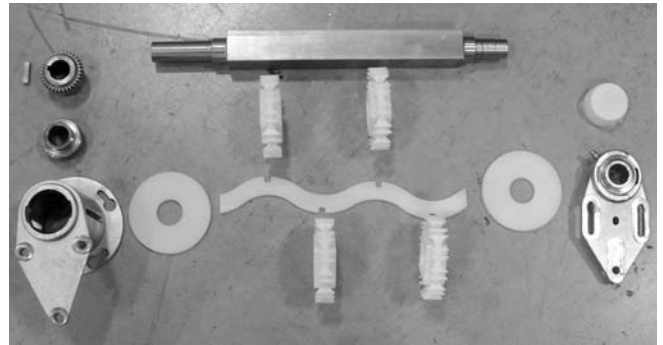

Figure 62
- Replace components, as needed (**Figure 62**).